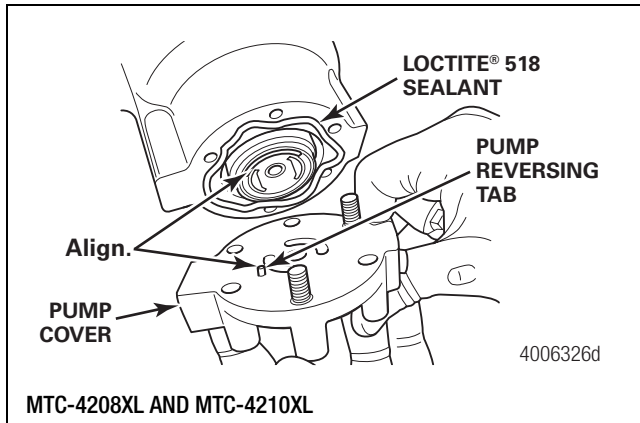

Figure 6.42
8. Apply a very light bead of Loctite® 518 sealant onto the pump housing. Do not allow the sealant to enter the pump cavity. Damage to the pump can result. Figure 6.42.